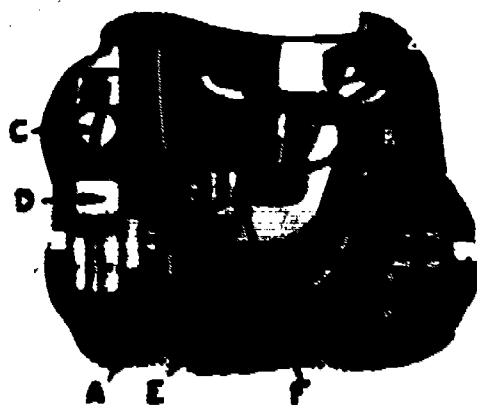

Figure 39. Underneath View Showing Hook Saddle, Hook Driving Pinion, and Feed Log Adjustment.
12. Remove screws A and B, figure 39, in hook driving pinion.